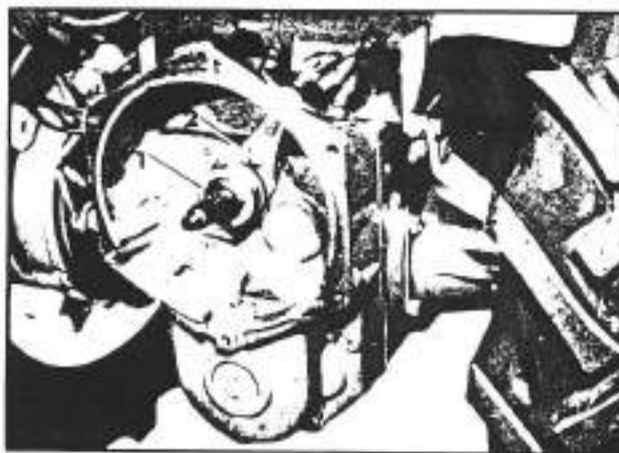

Fig. 3-2. Removal of the clutch fork and bearing
much care in order to avoid damage to or rapid wear of the thrust bearing (1; fig. 3-2) and of the clutch disk (1; fig. 3-3). It is absolutely necessary to center the clutch disk (1; fig. 3-3) and the spring disk (2; fig. 3-3) before inserting and tightening the bolts.
- Remove the thrust bearing (1; fig. 3-2) and the clutch fork (2; fig. 3-2).